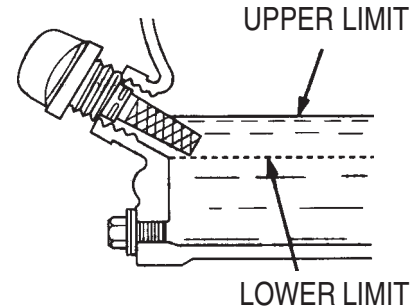

Figure 7. Engine Oil Dipstick (Oil Level)
4. If the oil level is low (Figure 7), fill to the edge of the oil filler hole with the recommended oil type (Table 3).